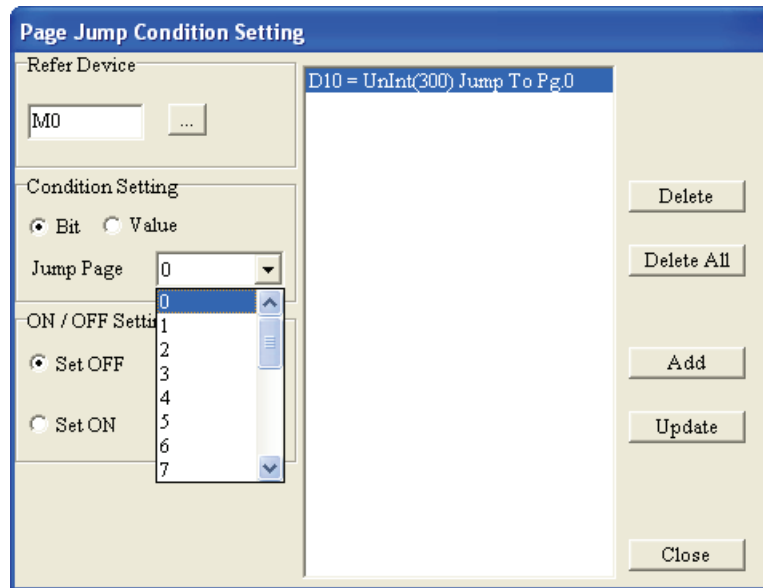
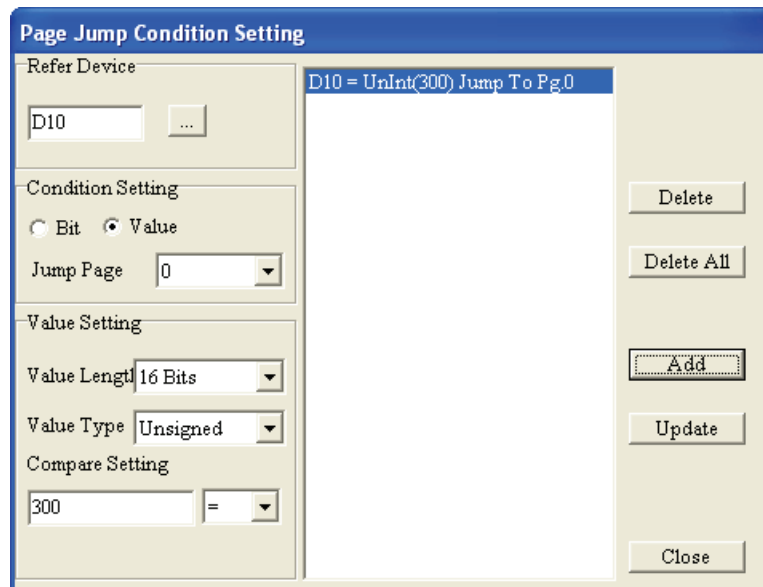

Figure 1-124
Figure 1-125
Step 4. In Condition Setting option, when Bit is selected, it means that Refer Device is set to a contact and ON/OFF Setting option will display for the users to set the contact to be ON or OFF by selecting Set OFF or Set ON (Figure 1-124). However, If Value is selected, it means that Refer Device is set to a value of a register and Value Setting option will display for the users to set the length and type of this value, and the compare setting for this value (Figure 1-125). When the set conditions are satisfied, the system will jump to the destination page (screen). The users could click  directly to switch to the desired page. When there is only one edited page, 0 will show in the filed of Jump Page. In TPEditor, the default display number of Jump Page is also 0.